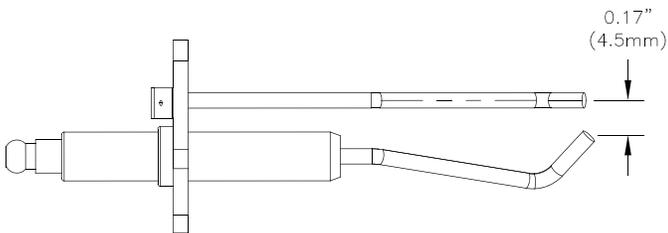

Figure 39: Igniter Electrode Gap
4. Remove the igniter assembly and flame sensor and inspect them for oxide deposits. Clean the oxide deposits from the igniter electrodes and flame sensor rod with steel wool. Do not use sandpaper for the cleaning. Inspect the ceramic insulators for cracks and replace the igniter assembly and/or flame sensor if necessary. Check the igniter electrode spacing gap. Refer to Figure 39 "Igniter Electrode Gap" for details.